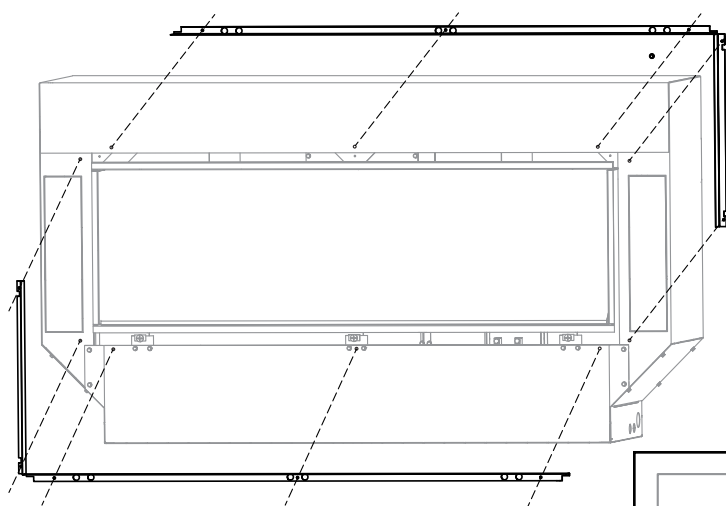

Figure 58: Removing Filler/Angle Brackets
3. **LEFT/RIGHT FILLER/ANGLE BRACKETS:** Make sure the two Filler/Angle Brackets are **installed** (ref. **Figure 58, next page**).